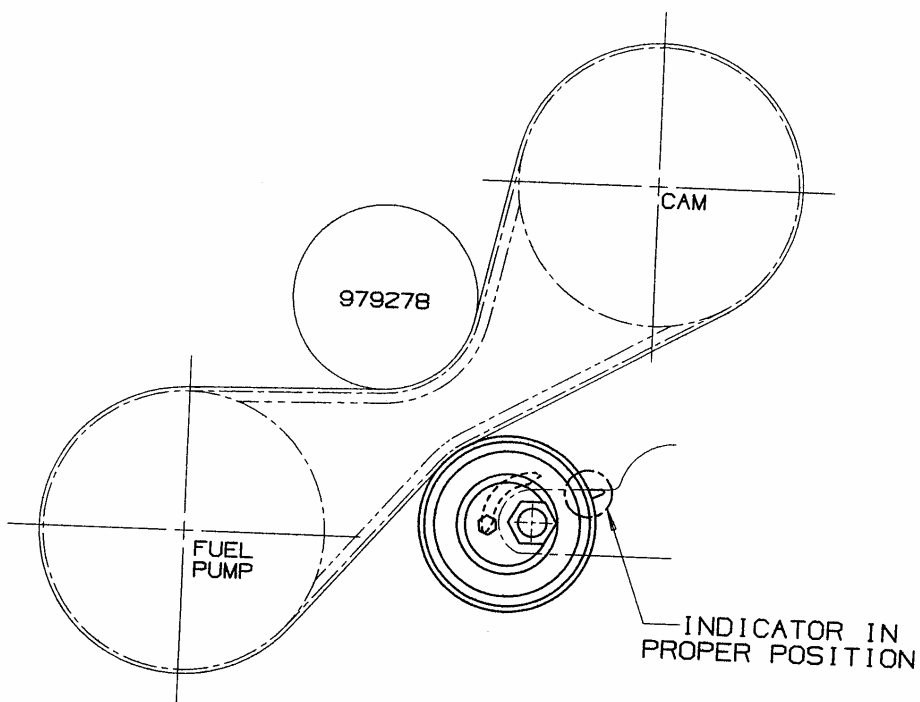

Figure 2: Properly Aligned Tensioner
5. Rotate the idler CLOCKWISE using a 6mm Hex Key until the arm indicator aligns with the cylinder head flange contour (See Figure 2).